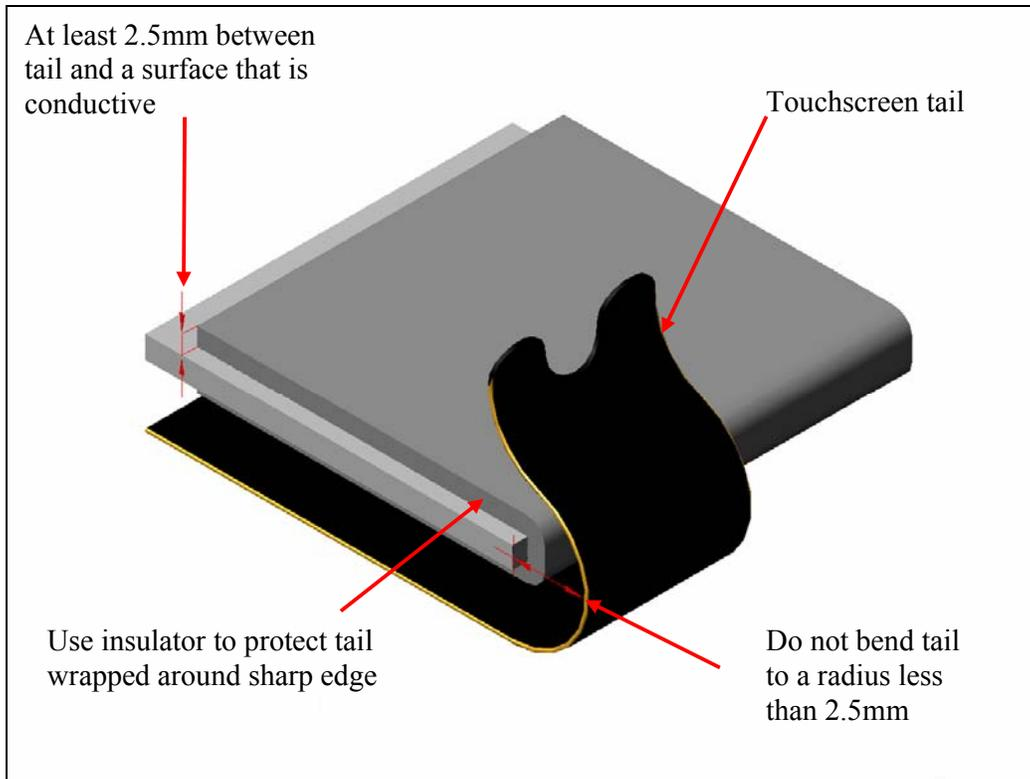

Figure 12: Apply gasket to sharp areas of metal work that the flexi tail comes in contact with
- Ensure the sensor flexi tail is not severely clamped between sharp edges of metal work. If so apply a thin gasket to the area in question to prevent the tail from being damaged, as shown in Figure 12.